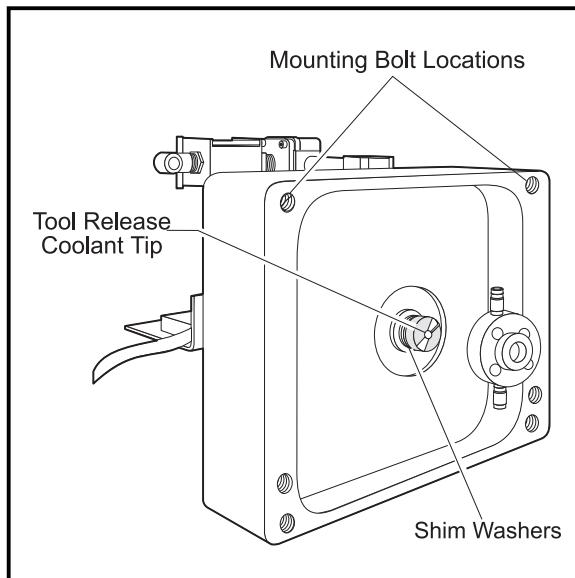

Figure 4. Coolant Tip (TSC machines only).
6. Press MDI and turn hand wheel to zero (0). Press HANDLE JOG button. Jog the Z-axis in the positive (+) direction .100".
- If the block is tight at 0.070 or less, the Coolant Tip (Figure 4) must be replaced. Replace coolant tip and seal housing at the same time (TSC Service Kit 93-9000A).